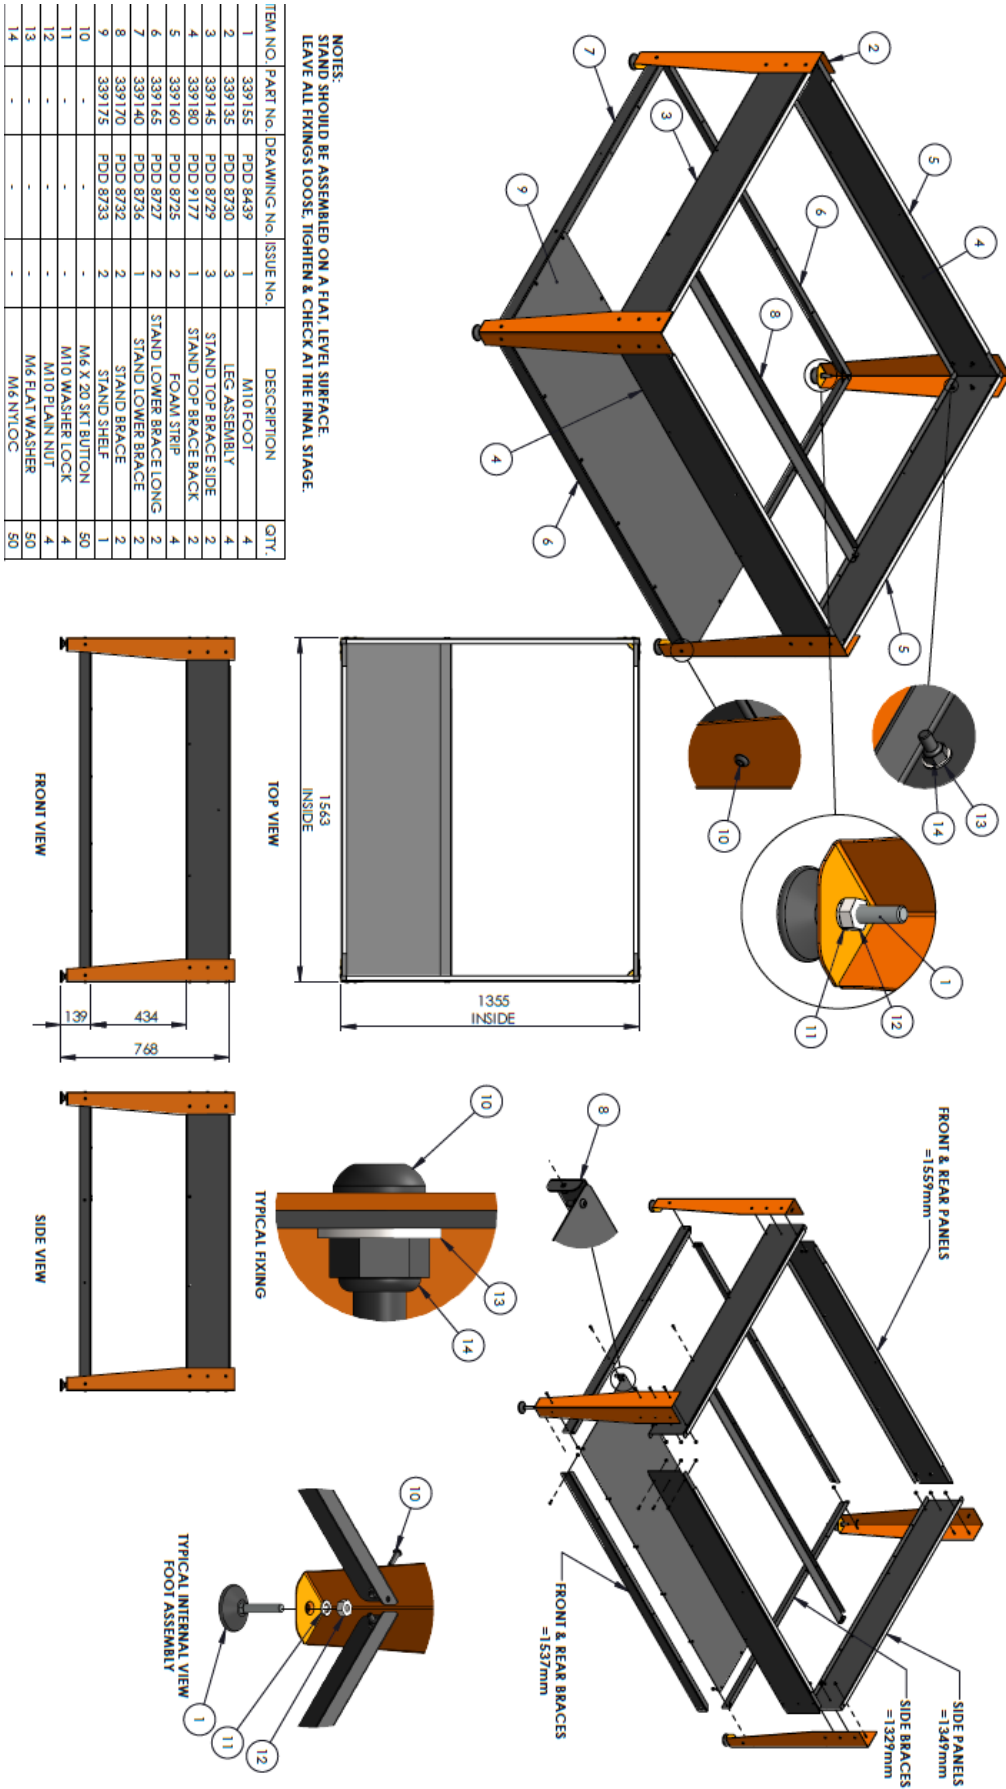

Fig 6 Table stand components and assembly
1. Fig 6 on page 22 shows the stand components and assembly for the stand.